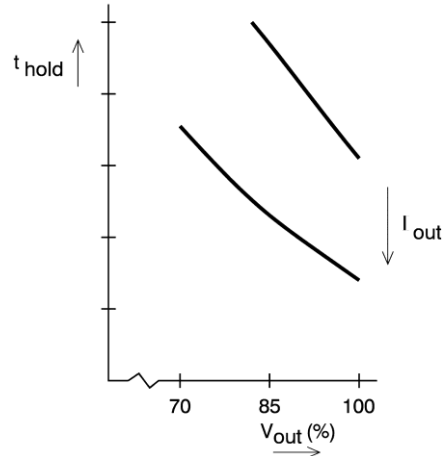

Figure 6.3: Hold-up time vs. V_{out} , for different I_{out}
- The hold-up time depends on the DC load and the DC output voltage. A lighter load or a lower output voltage result in a longer hold - up time, see Figure 6.3.